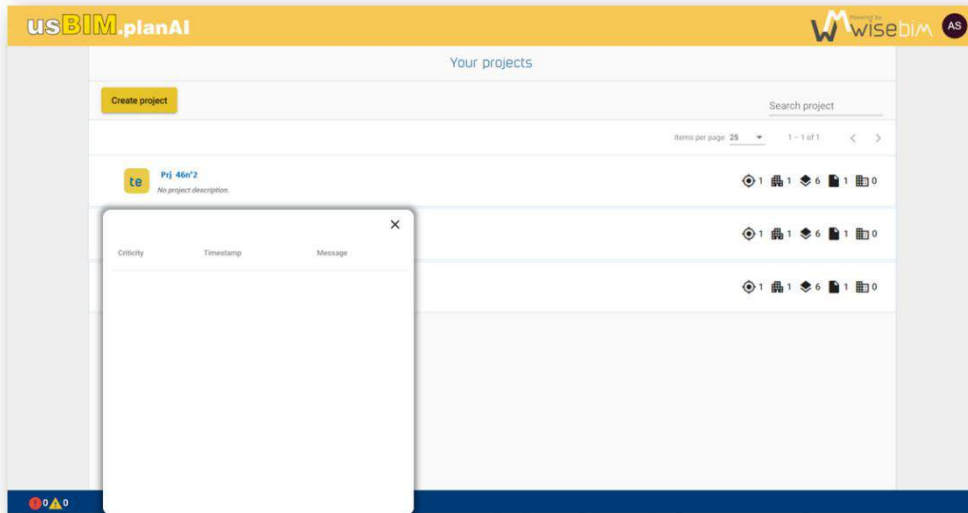

Figure 6. footer window
- A footer to display information (Figure 6).
At the bottom of the page, the footer displays the error or warning messages which may appear during the various operations carried out by the user (Figure 6). Links to the general conditions also provide access to these documents too.